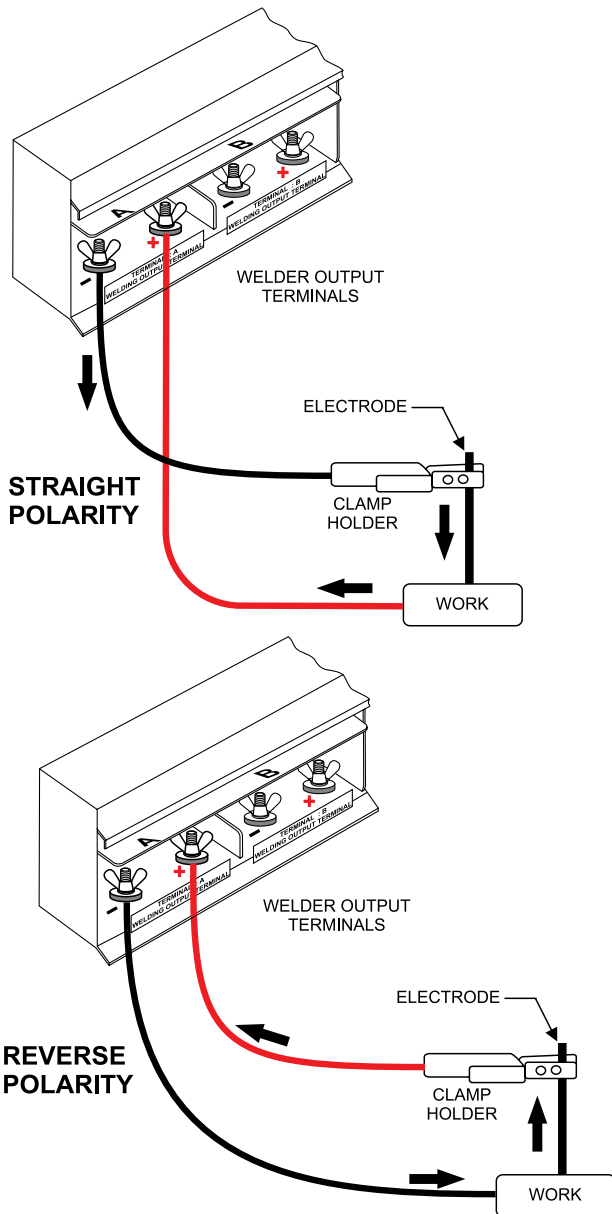
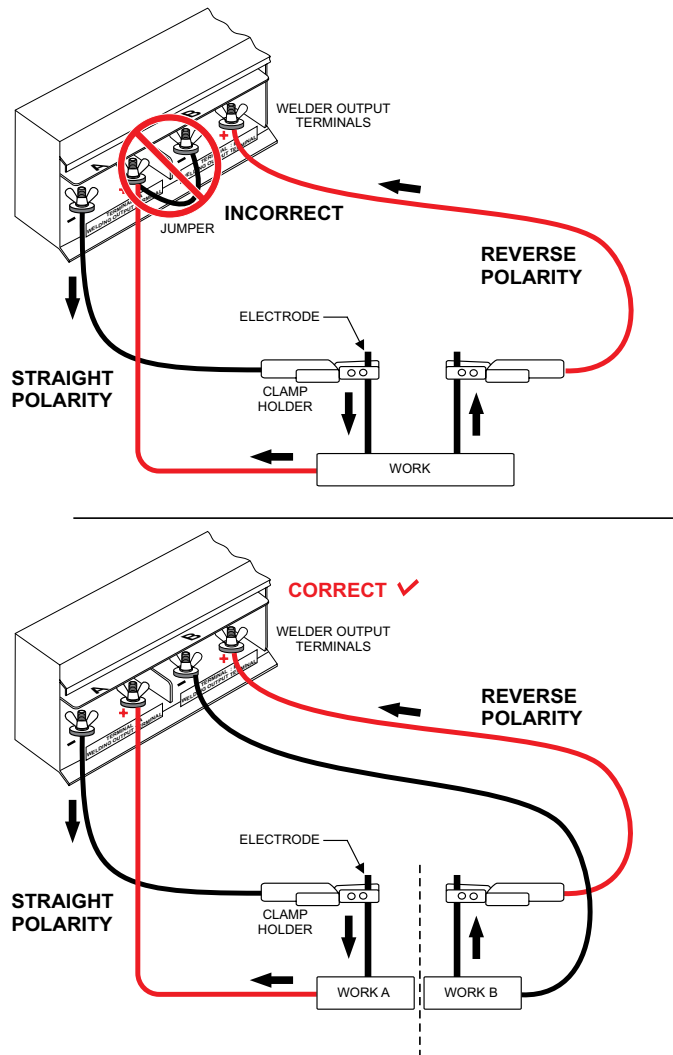

Figure 16. Welding Cable Connections (Electrode Type Correct)
Figure 17. Welding Cable Connections (Electrode Type Incorrect)
When operating the welder in dual mode, **NEVER** connect the positive and negative terminals (Figure 17) from the **A** and **B** sides together.
- Attach the clamp holder to the electrode as shown in Figure 16 and Figure 17.